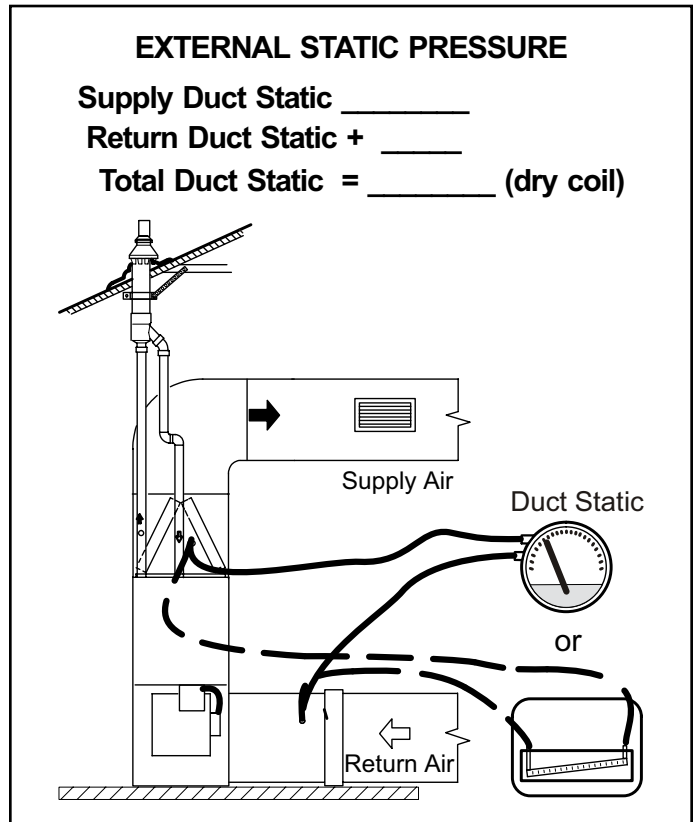

Figure 18.
1. Tap locations shown in Figure 18.